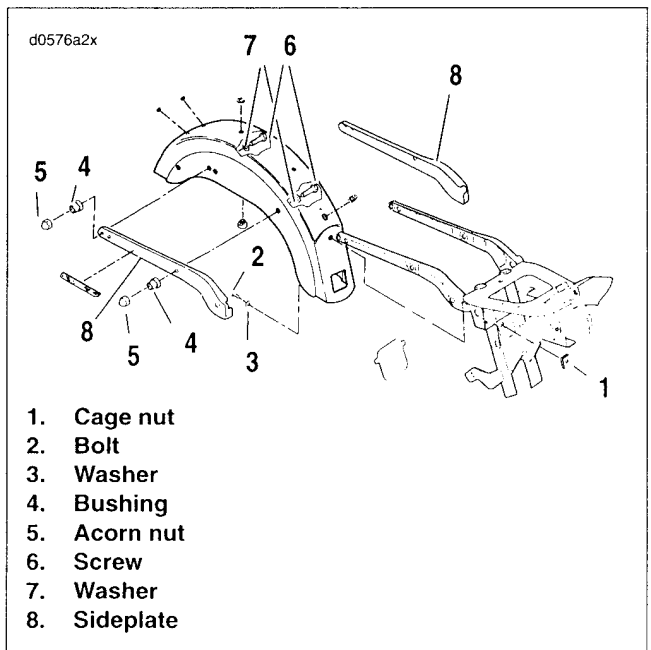

Figure 2-122. Rear Fender: FXDXT
2. See Figure 2-122. From under fender, remove bolt (2) and washer (3) securing front of fender to cage nut (1) on frame.
3. Remove saddlebag mounting screws (6), washers (7), bushings (4) and acorn nuts (5). Carefully remove fender and sideplates (8).
2. See Figure 2-122. Place fender and sideplates (8) into position.
3. Install saddlebag mounting screws (6) and washers (7) from inside fender. Apply LOCTITE THREADLOCKER 243 (blue) to screw (6) threads.
4. Install bushings (4) and acorn nuts (5) onto screws (6). Tighten all nuts (5) to 12-18 ft-lbs (16.3-24.4 Nm).
5. Attach front of fender to frame with bolt (2), washer (3) and cage nut (1).